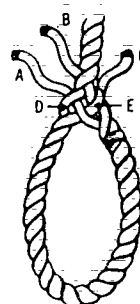

Figure 7-34. Making a Side Splice
- Step 1. Start by seizing the working end of the rope. Unlay Strands A, B and C, to the seizing and whip the end of each strand. Then twist the rope slightly to open up Strands D, E and F of the standing part of the rope, as indicated in Figure 7-34, Step 1:
- Step 2. The first tuck is shown in Figure 7-34, Step 2. The middle strand is always
Step 3. The second tuck is now made as illustrated in Figure 7-34, Step 3. Left Strand A of the working end is tucked under Strand D, passing over Strand E.
Step 4. Figure 7-34, Step 4 illustrates how the third tuck is made. To make Strand F easy to get at, the rope is turned over. Strand C now appears on the left side.
Step 5. Strand C is then passed to the right of and tucked under Strand F, as illustrated in Figure 7-34, Step 5. This completes the first round of tucks.
Step 6. Figure 7-34, Step 6 illustrates the second round of tucks started, with the rope reversed again for ease in handling. Strand B is passed over Strand D and tucked under the next strand to the left. Continue with Strands A and C, tucking over one strand and then under one to the left. To complete the splice, tuck each strand once more.
Step 7. Remove the temporary seizing and cut off the strand ends, leaving at least 1/2" on each end. Roll the splice back and forth under your foot to even up and smooth out the strands. The completed Eye Splice is illustrated in Figure 7-34, Step 7.